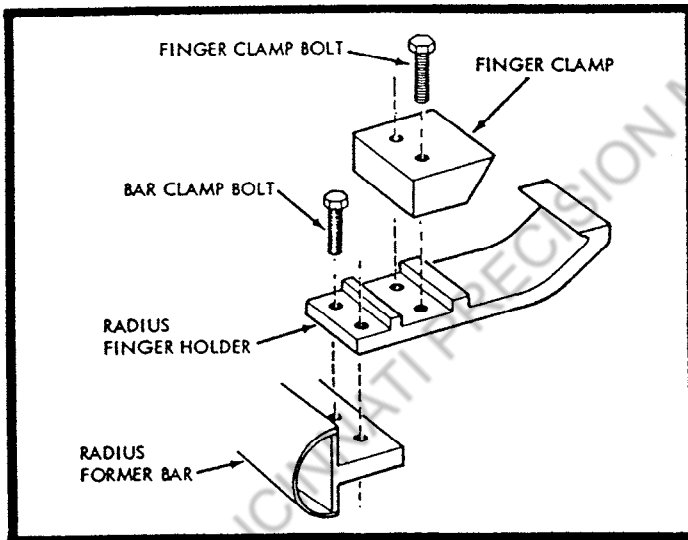

Figure 14. Assembling Radius Formers
1. Assemble the necessary number of Radius Finger Holders to the Radius Forming Bar as shown in figure 14.